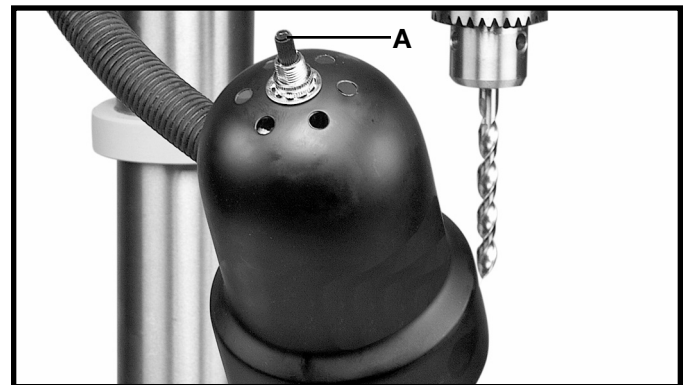

Fig. 22
The flexible lamp operates independently of the drill press. To turn the lamp “ON” and “OFF”, rotate switch (A) Fig. 22.